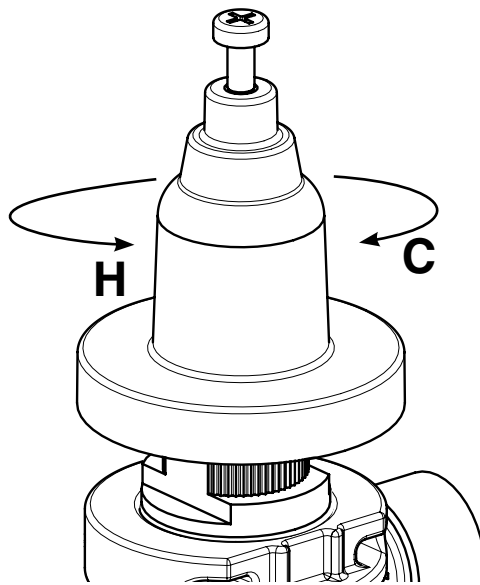

Figure 8
5. If necessary, adjust sprayhead body to fit closely to wall by adjusting sprayhead mounting bolts. See Figure 8 on page 14 for sprayhead mounting bolt locations.